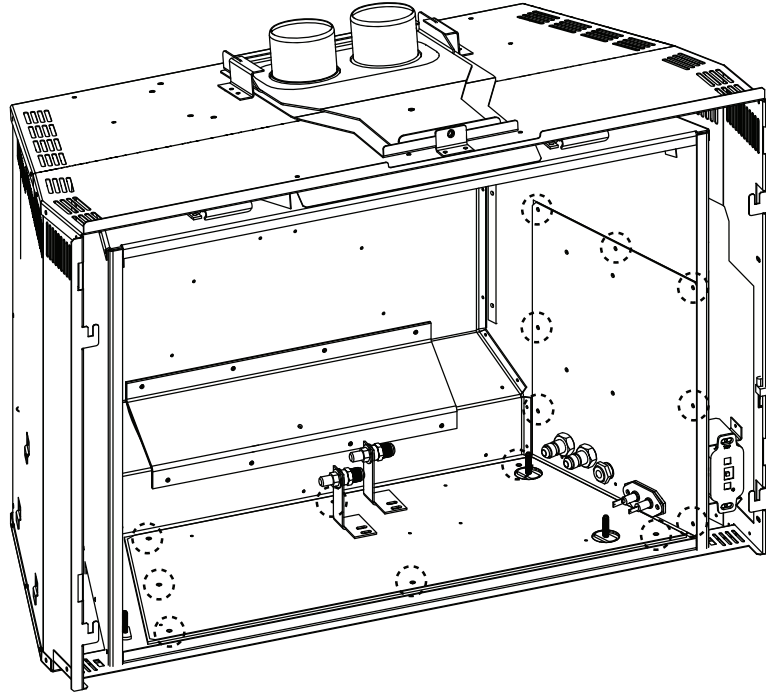

Fig. 6-2
- C. Remove the 14 screws holding the valve train in place (**Fig. 6-2**).